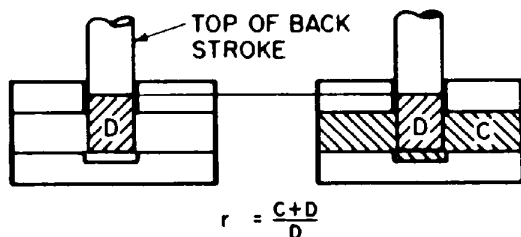

Figure 2
Another important factor that affects a reciprocating pump's capacity is something called volumetric efficiency (VE). VE is expressed as a percentage and is proportional to the ratio of the total discharge volume to the piston or plunger displacement. Figure 2 illustrates how we arrive at this ratio.
Figure 2 also clearly illustrates the volumetric displacement operating principle of these pumps. Although there is no cylinder wall around the plunger at the bottom of its stroke, it still displaces fluid equal to its own volume.